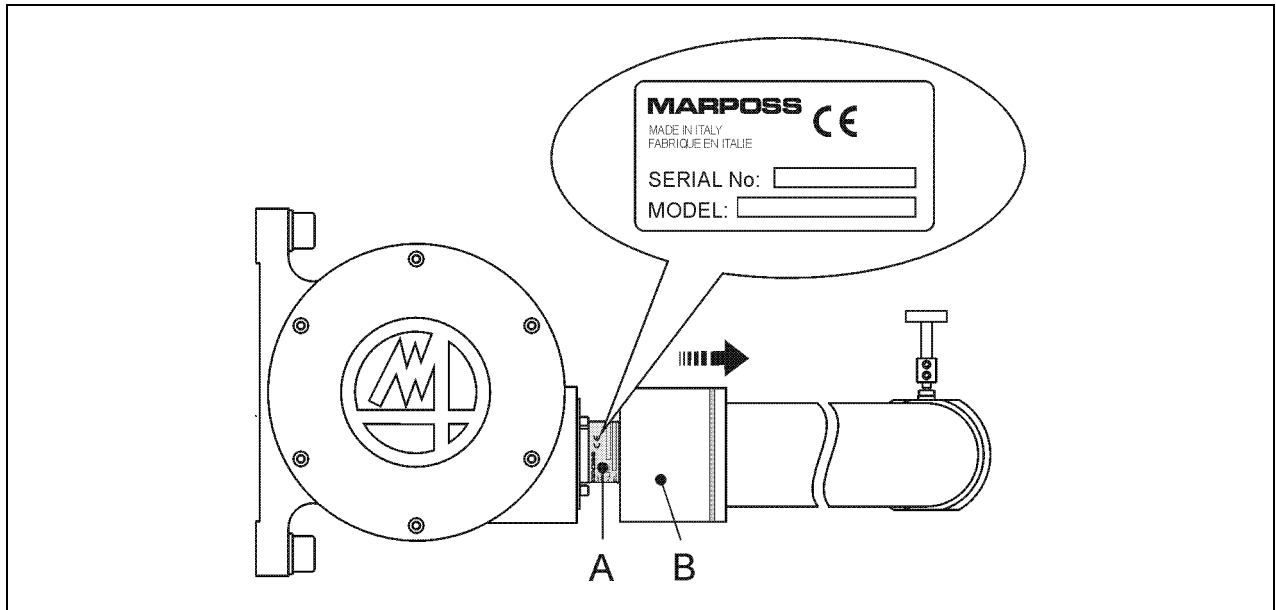

Figure 3-2. *MIDA TOOL EYE ELECTRIC* arm identification plate.
On the *MIDA TOOL EYE ELECTRIC* arm, in a protected position, there is an identification plate showing the arm MODEL and SERIAL No. The plate (A) is visible when the cover (B) is pulled back (Figure 3-2).